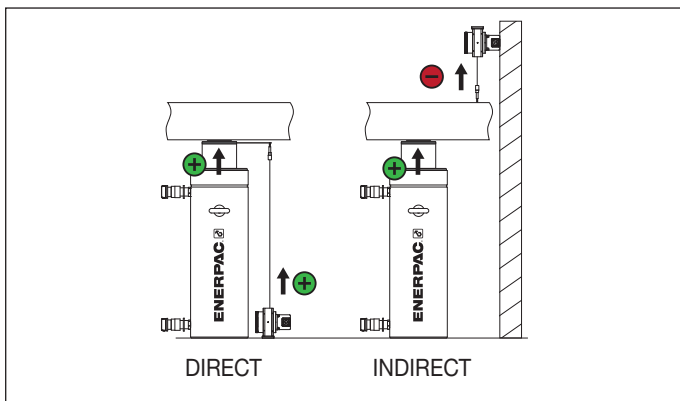

Figure 19, Direct and Indirect layout
- Position sensor scale: Depending on where is placed the stroke sensor the user must select one of these two options. When the cylinder's plunger movement and the stroke sensor's wire are extending (positive movement), the movement is called Direct. When the cylinder is extending but the stroke sensor wire is retracting (negative movement) the movement is called Indirect. Refer to Figure 19 for further details.